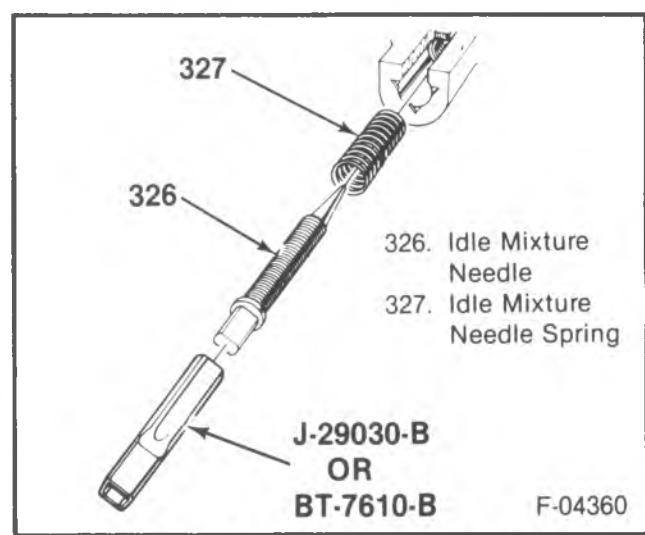

Figure 25 - Idle Mixture Needle and Spring
- ↔ Remove or Disconnect (Figure 25)**